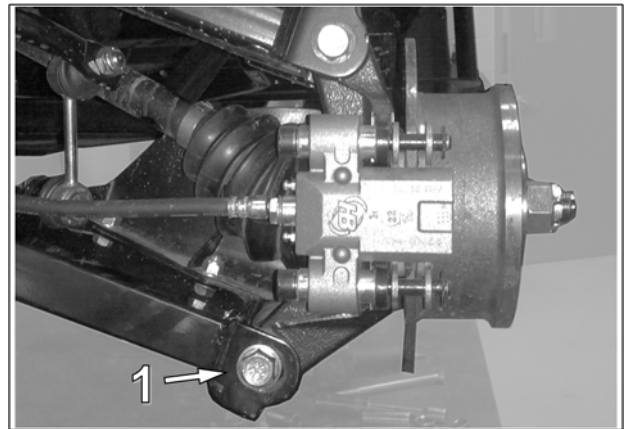

Fig. 3
- Remove bolt (1) that links lower suspension arm to wheel knuckle. See Fig. 3